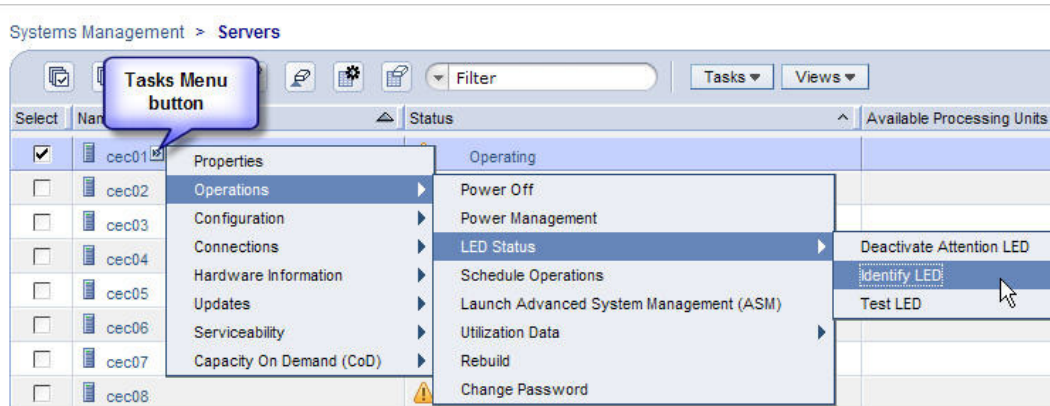

Figure 1 Identify LED Selection
STEP 5 Click the Tasks Menu button (right-arrow) and *select* **Operations -> LED Status -> Identify LED**. See Figure 1.
- STEP 12 Remove the D-Link Optical connector at each end of the cable from the D-Port in the CEC drawer by pulling on the blue-purple colored push/pull tabs on the connector (see Figures 1 and 2).
- STEP 22 If the D-Link is individual, remove the D-Link Optical connector at each end of the cable from the D-Port in the CEC drawer by pulling on the blue-purple colored push/pull tabs on the connector (see Figures 1 and 2).